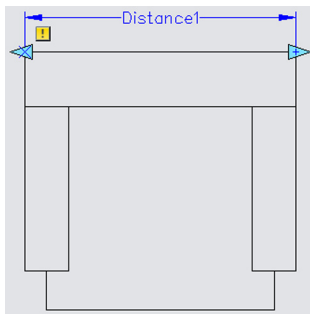

FIGURE 7.10
- Step 1.** Open the Parameter tab on the palette and pick the Linear parameter. That, after all, is the way scale works, by linearly scaling up an object. First, pick the upper left corner start point, then pick the upper right corner endpoint of the chair (like adding a horizontal dimension). The result is shown in Figure 7.10.